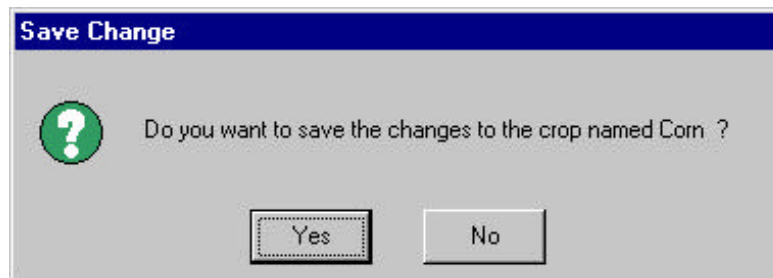

Figure 14.31
- e. A prompt box appears (Figure 14.31).